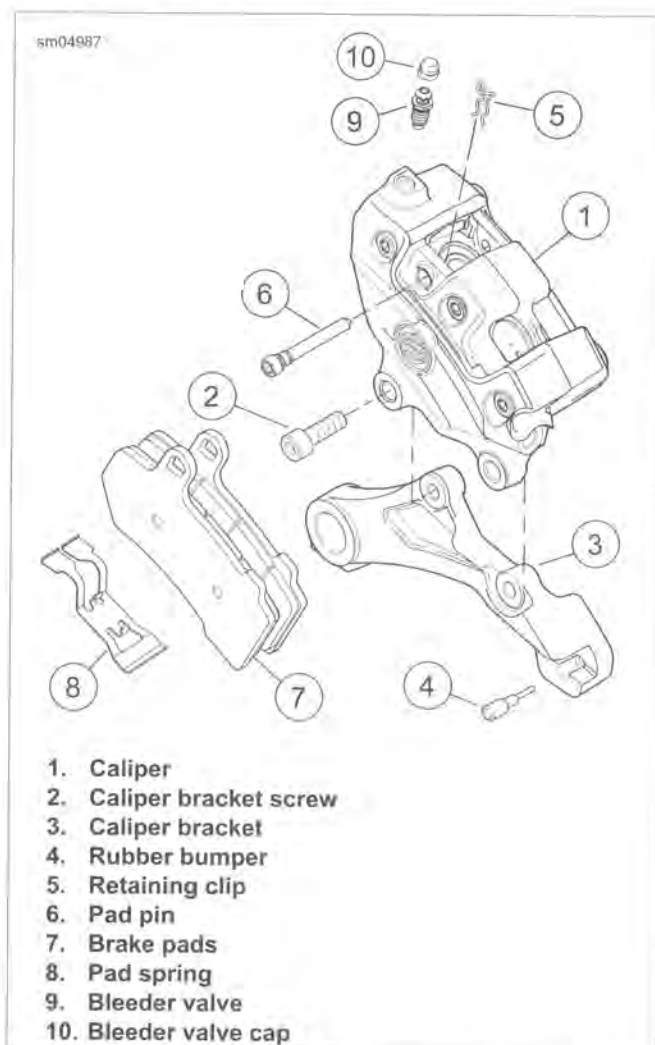

Figure 2-50. Rear Brake Caliper Assembly
3. See Figure 2-50. Remove two screws (2) to release caliper from caliper bracket.
5. If necessary, retract rear axle to remove caliper bracket (3). See 2.5 REAR WHEEL.